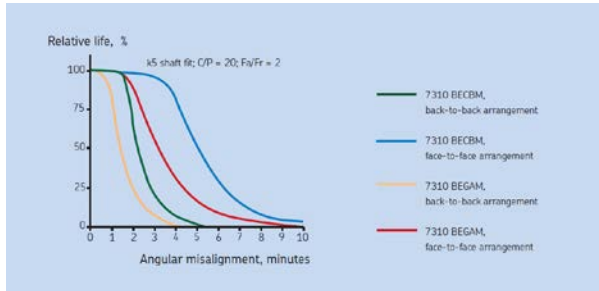

Figure 20. Misalignment can reduce angular contact bearing life dramatically
Misalignment is one of the quickest ways to reduce bearing service life. Particularly for angular contact ball bearings, any misalignment will reduce service life. For bearings mounted in pairs, particularly those with very small clearances or bearings with preload, misalignment can only be accommodated by increased rolling element loads and deflections, which also create increased cage stresses and reduced service life. Any misalignment will also create an increase in noise and vibration. Figure 20 shows the decrease in life as a function of misalignment. Life curves are shown for bearing pairs mounted with preload (GA) or clearance (CB) in both face to face and back to back